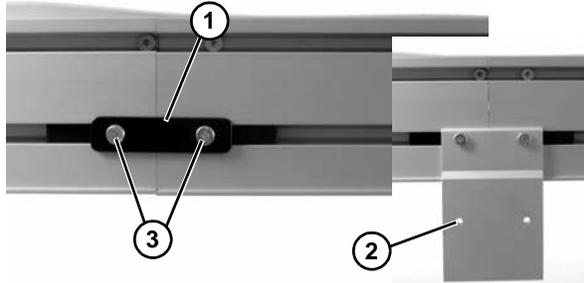

Figure 9
- Join additional conveyor sections if necessary and install connector brackets (**Figure 9, item 1**) or connector/mount brackets (**Figure 9, item 2**) and screws (**Figure 9, item 3**) on both sides as indicated. Tighten screws to 60 in-lb (7 Nm).